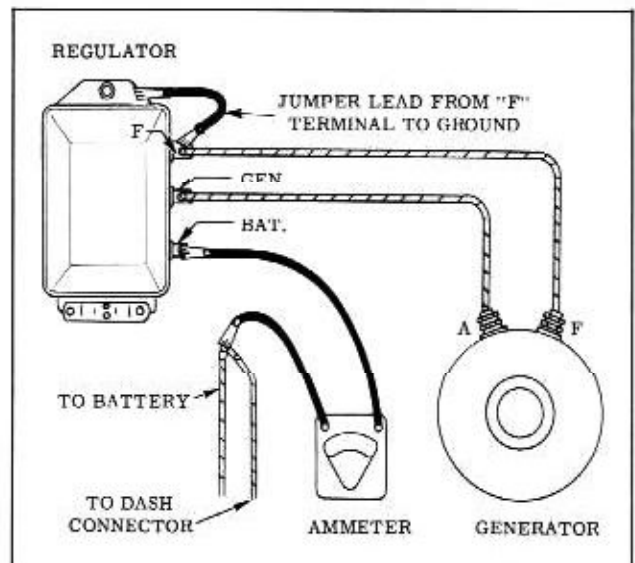

Fig. 13-18 Checking for Oxidized Points
3. Ground the "F" terminal of the regulator as shown in Fig. 13-18.